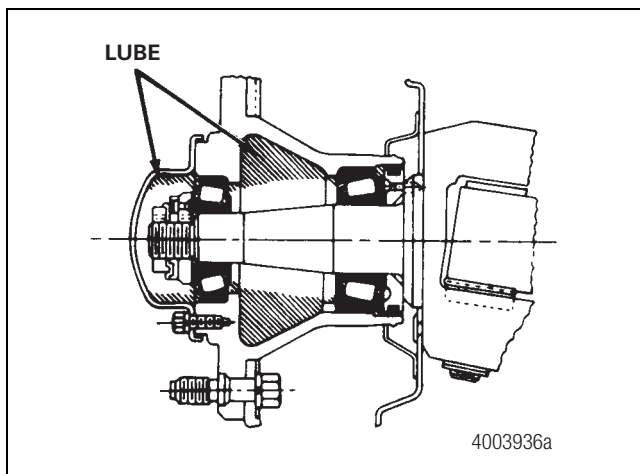

Figure 40
5. Pack the hub between the bearing cups with the specified grease, up to the level of the smallest diameter of the cups 360 degrees around. Figure 40.